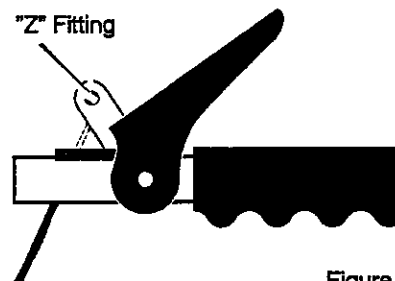

Figure 32
To check for correct adjustment, unhook "Z" fitting at clutch lever (see Figure 32).
5. Disconnect the "Z" fitting from the drive lever (see Figure 32).
11. Install the "Z" hook to the traction drive lever (see Figure 32).